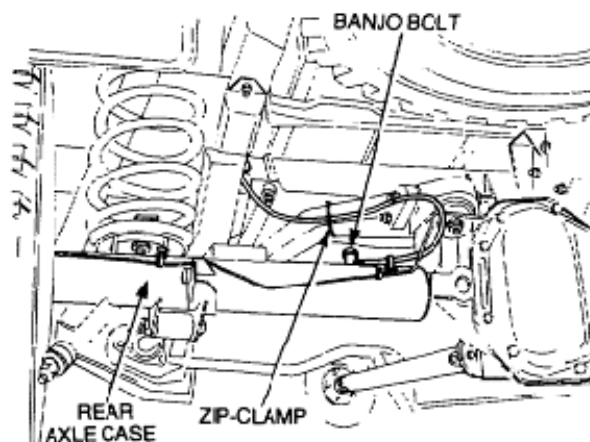

Figure 87 Rear Axle Breather Hose Location
- b. Remove the banjo bolt and sealing washers securing the breather hose to the rear axle casing (Figure 87). Discard the sealing washers.